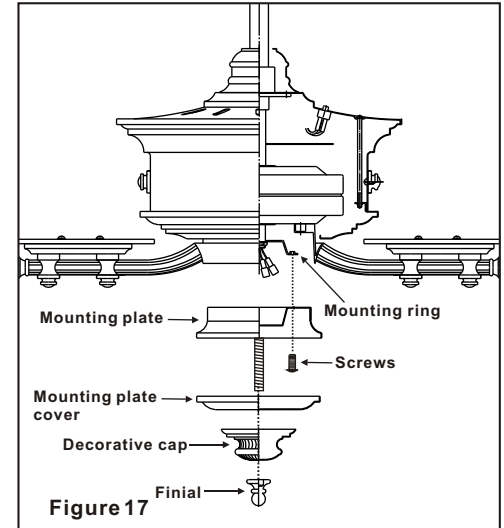

Figure 17
1. Install the mounting plate to the mounting ring with 3 screws provided. (Fig. 17)